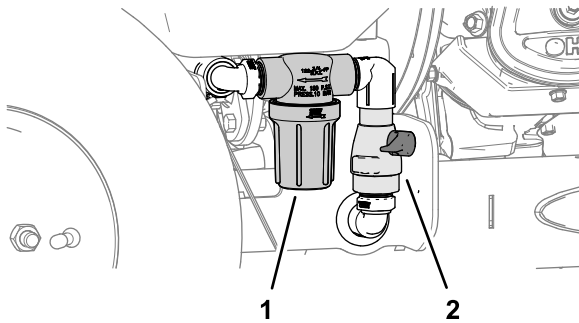

Figure 61
2. Rotate the handle of the pump-shutoff valve 90° counterclockwise to the CLOSE position (Figure 61).
3. Align a drain pan under the strainer (Figure 61).
9. Rotate the handle of the pump-shutoff valve 90° clockwise to the OPEN position (Figure 61).